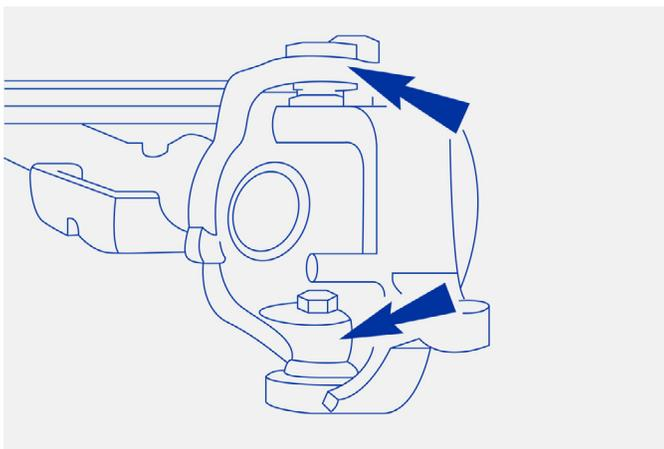

Figure 3
Step 5 – Remove the upper ball joint cotter pin and nut. Loosen, but don't remove, the lower ball joint nut. Strike the lower and upper end of the axle to loosen the ball joints. (Figure 3)